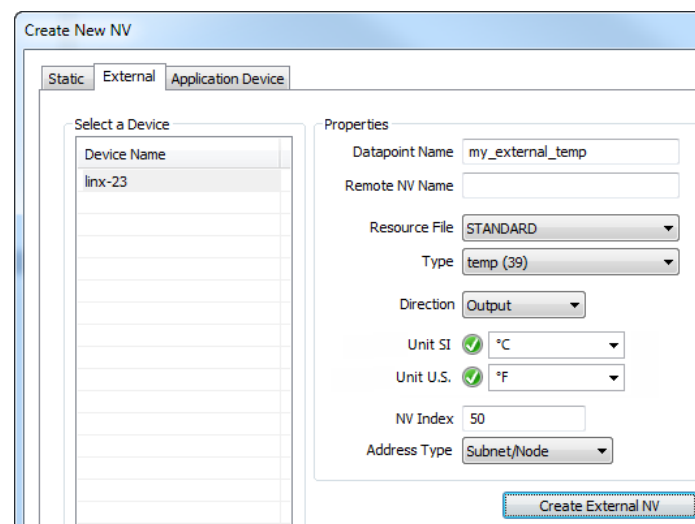

Figure 189: Create a new external NV.
3. Click on the tab **External** as shown in Figure 189.